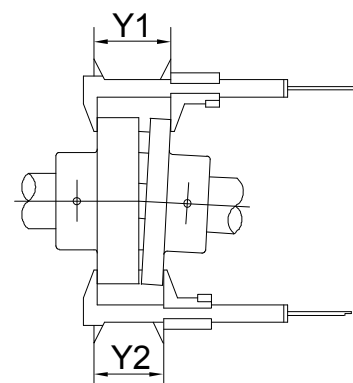

Fig. 22
- 10 - Angular misalignment can be measured with a Calliper. Measure the outside coupling dimension at several points (see fig. 22).